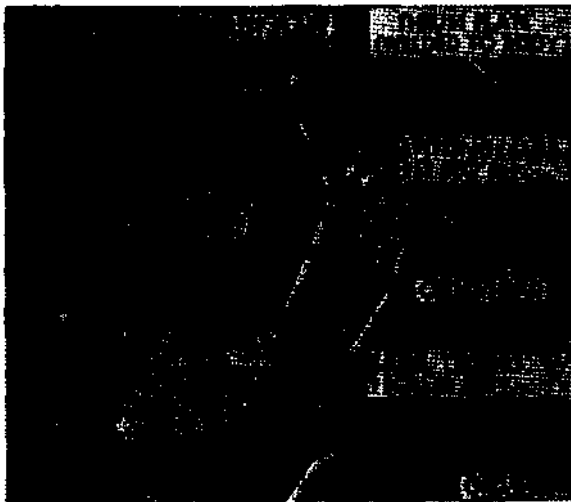

Figure 68. Dump body lifting arms disconnect points.
- (1) Remove capscrew, hex-head nut, and lockwasher from each thrust plate lifting pin (fig. 68).
- (3) Remove lubricating fitting from both thrust plate lifting pins. Drive pins from dump body thrust plates and lifting arm with roller assemblies (fig. 68).
- (1) Attach a suitable chain hoist and lift dump body assembly into position on subframe assembly.
- (2) Aline dump body thrust plate holes and lifting arm with roller assembly and install thrust plate lifting pins (fig. 68).
- (4) With the thrust plate lifting pins (fig. 68) in position, raise the dump body and secure in the raised position. Use the safety braces (fig. 64) provided.
- (5) Install the capscrews, lockwasher, and hex-nut at each pin, securing thrust plate lifting pins (fig. 68) to thrust plates.
- (6) Install the lubricating fitting (fig. 68) in each thrust plate lifting pin.
- (7) Raise the dump body to permit lowering of safety braces and position body in the extreme lowered position.